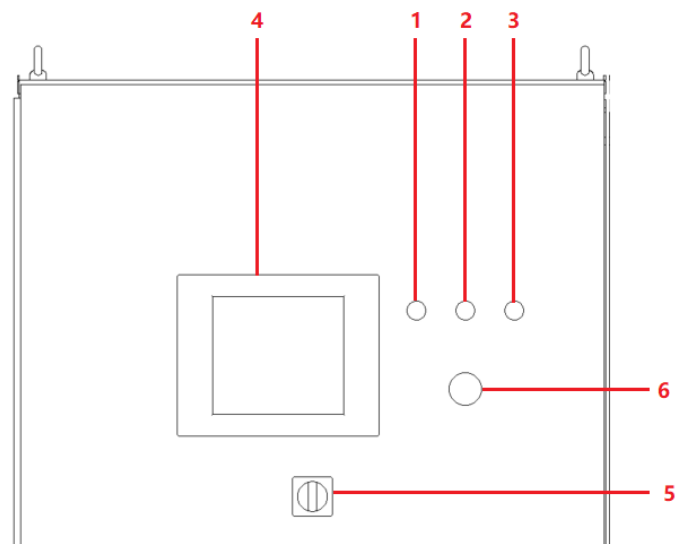

Figure 1-2 Front panel
This touch screen (Figure 1-2④) is a resistance screen, which works through pressure sensing and has good response sensitivity. Support touch input of any object (such as stylus or fingernail).